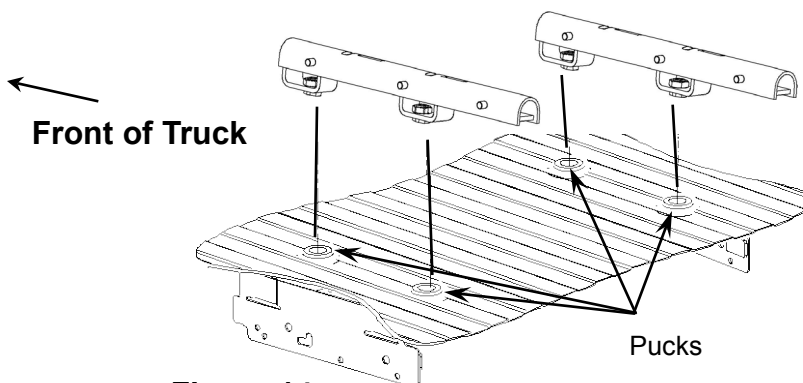

Figure 14
- Place the slider rails (Figure 1, #20) as per Figure 14 into the mounting pucks previously installed in the truck (See *Reese® Elite™ Series* Mounting Kit Instructions).